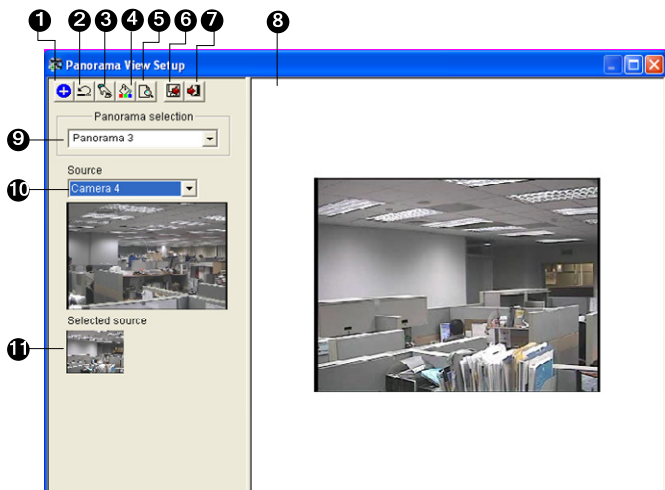

Figure 4-57
1. Select one panorama set (No. 9, Figure 4-57) from the drop-down list. If you want to rename the selected panorama set, type the name in the field.
2. Select one camera from the Source drop-down list (No. 10, Figure 4-57) and then click **Manual Setting** (No.3, Figure 4-57). This dialog box appears.
- When you finish stitching images, click the **Save Before Exit** button (No.6, Figure 4-57) to save the created panorama view before exiting the Panorama View Setup dialog box.